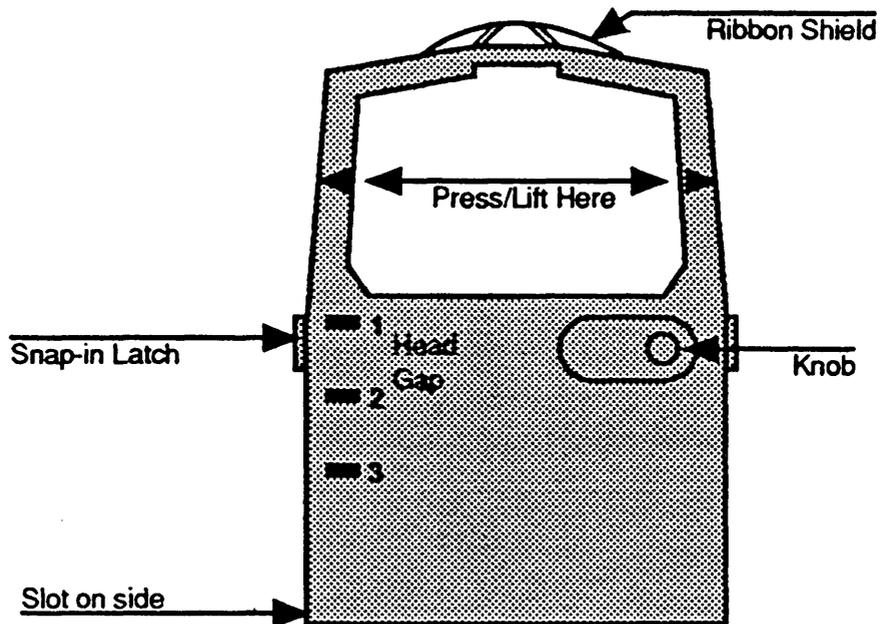

Figure 2-9. Ribbon Cartridge, Top View
1. Holding the paper separator at an angle to the top of the printer, insert the tabs into the slots on the top of the printer as shown in the detail blow-up in Figure 2-9.